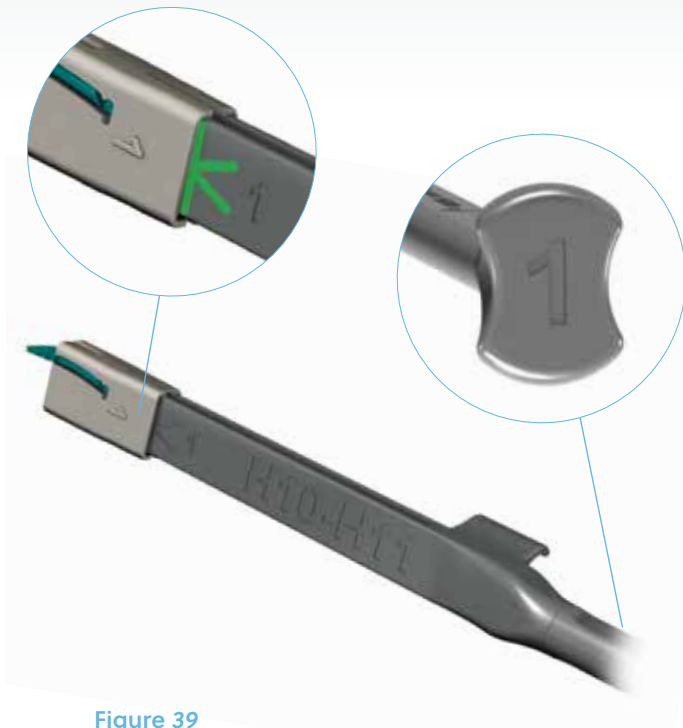

Figure 39
- Insert the first holder with face number "1" facing the K mark on impactor N°1 (**Figure 39**).